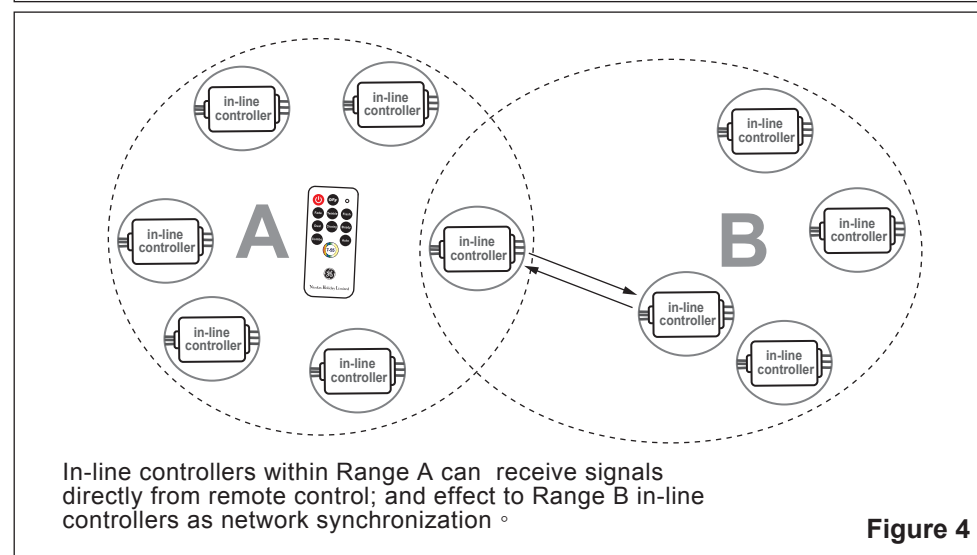

Figure 4
- Multiple sets of Sync RGB products are automatically synchronized as long as the product is in an effective signal source area (as shown in Figure 4).